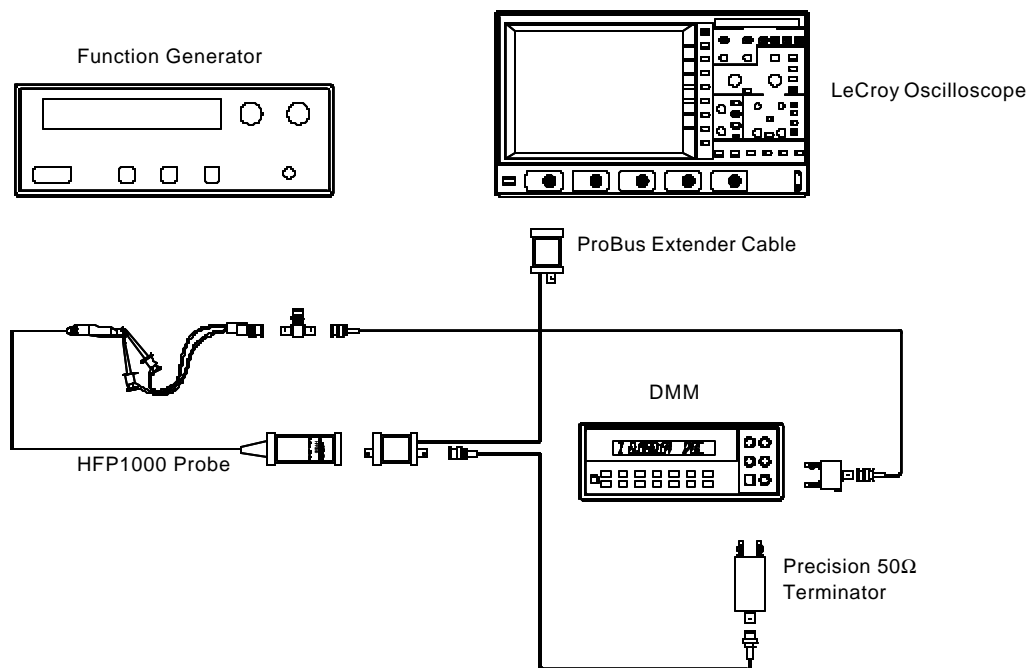

Figure 7-2. LF Attenuation Accuracy Test Setup
1. Connect the BNC end of the BNC to mini-grabber cable to a female end of the BNC tee adapter. (Refer to figure 7-2)